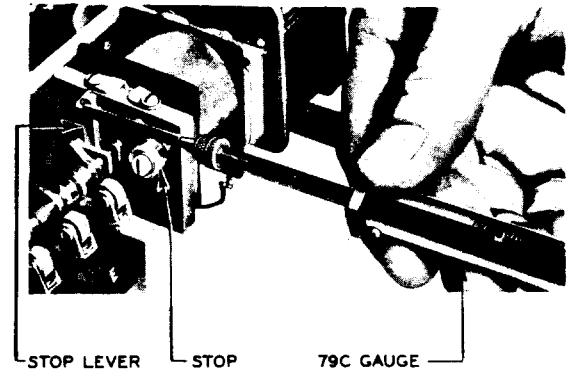

Fig. 6 - Method of Checking Motor Torque
2.14 Motor Torque: Fig. 6 — With the shaft rotating under control of the motor energized on 22 volts, the motor shall not stall when a pressure of